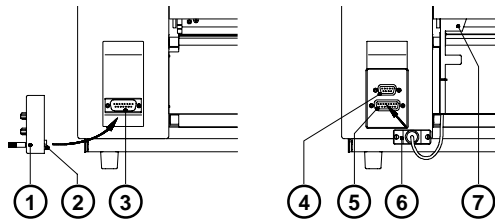

Fig. 13 I Installation of the cut / peel-off adapter
Fig. 13 c Power supply module of the external rewinder
Fig. 13 d Rewinding directly onto the rewind axle
Fig. 13 e Rewinding onto 3 in (75 mm) cardboard roll
Fig. 13 f Rewinding onto 3 in (75 mm) cardboard roll
7. Feed the label strip over the guide bar (7) and the roller (11) until it is long enough to reach the cardboard core (9).
8. Taking note of the direction of rewinding, use an adhesive strip (or a label) to affix the end of the strip to the cardboard core. The illustration (fig. 13 f) shows the arrangement for rewinding with the label stock on the outside of the silicon liner.
Fig. 13 g Mounting the present sensor
Fig. 13 h Inserting the labels for peel-off
1. Put in the labels according to the description "Loading Labels" for the tear-off mode (see chapter 6). Feed the label strip as far as possible through media feed roller and printhead. It is particularly important to ensure that the media strip is long enough to reach the internal rewriter (see fig. 13 h).
2. Slide the media guide (10) to their outermost position.
3. Remove the clamp (11) from the internal rewriter (12).
4. Feed the label strip past via dispense edge (9) to the internal rewriter (12).
5. Attach the label strip with the clamp (11) into the grooves of the internal rewriter (12).
7. Slide the media guide (10) to the edge of the label strip.
Fig. 13 i Connectors of the cut / peel-off adapter
Fig. 13 k 9-pin SUB-D connector of the cut / peel-off adapter
Fig. 13 m Write protection / Inserting the battery
Fig. 13 n Installation of the memory card
Fig. 13 o Connecting side
Fig. 13 p Connection the external keyboard